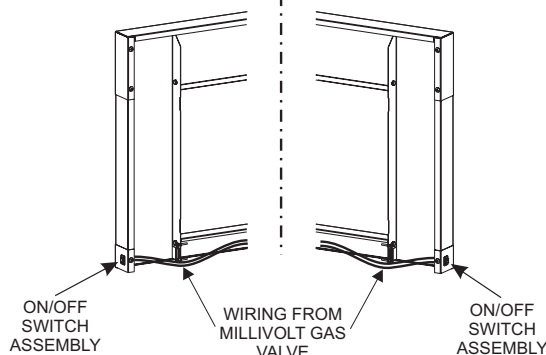

Figure 13
- 2b. **IP Units:** Disconnect the (2) black wires from the green and white wire connectors. Connect alternate On/Off switch wires to the green and white wires. **Note:** This bypasses the On/Off switch located on the front of the control module tray.
3. Run the low voltage alternate switch wires over to the right or left surround panel. Then secure the wires with wire clips provided. See Figure 13.
4. Remove the switch knockout on the side surround panel, then install the ON/OFF switch. See Figure 13.